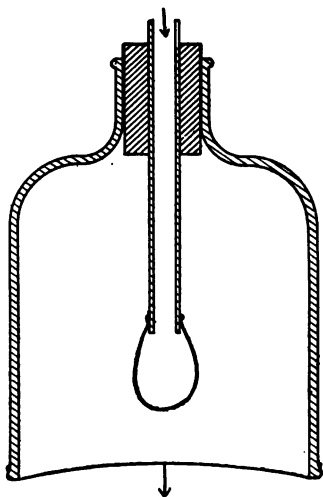

FIG. 308.—ACTION OF DIA-
**314. Human Lungs.** In the lungs we have a bellows in which the inlet and outlet for the air are the same. The lungs are made up of two connected sacs inclosed within the chest cavity. Between the outer walls of the sacs and the inner walls of the chest cavity there is a thin layer of lubricating liquid. The atmospheric pressure keeps the sacs inflated so that they fill the cavity. By means of the muscles between the ribs and by the diaphragm it is possible to increase the size of the chest cavity. (Note.—The diaphragm separates the chest cavity from the abdomen.) During this act of *inspiration* the air inside, upon expanding, becomes reduced in pressure and the greater atmospheric pressure outside forces air in. On expiration, the muscles are relaxed, whereupon the chest contracts naturally and the air pressure inside becomes greater than the atmospheric pressure outside. The air is forced out by the diaphragm and by the muscles of the chest. The greater effort is in the act of inspiration, for it is in this that the chest muscles are stretched. Figure 308 represents the action of the diaphragm. A toy balloon is fastened to a glass tube, and the tube is passed through a one-holed stopper that fits the top of the bell jar. Over the lower opening of the bell jar is tied a rubber disc. If the disc is pulled